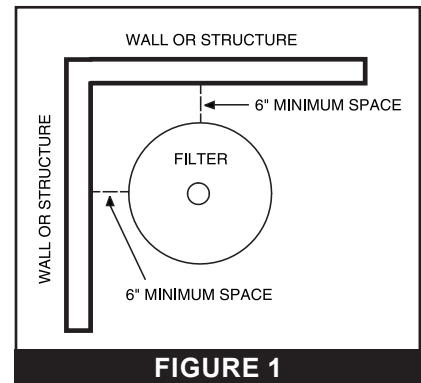

FIGURE 1
3. Allow sufficient clearance around the filter to permit visual verification that the clamp is properly installed around the tank flanges, see **FIGURE 1**.